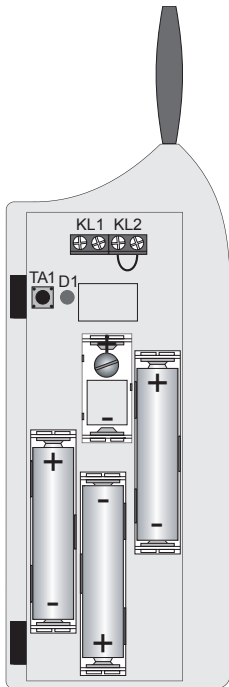

Figure 6
- Insert 3 AAA batteries into the 3 battery holders making sure polarity is correct. See figure 6.